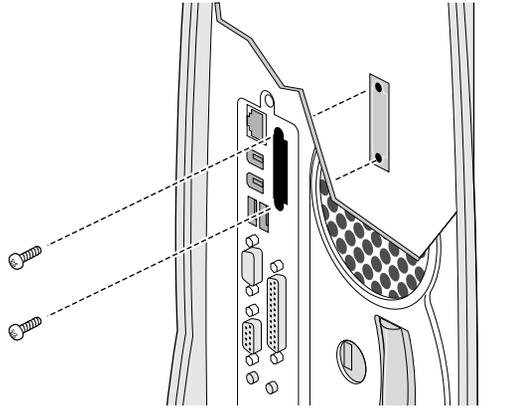

Figure 5-10 Installing the Display Option Slot Cover Plate
6. If you are not replacing the card, reinstall the cover plate, as shown in Figure 5-10.